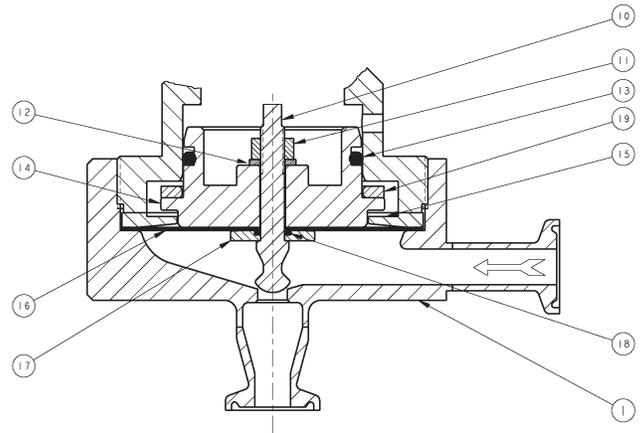

FIGURE 1: Diaphragm & Plug Subassembly
3. Refer to Figures 1 and 2 for the basic regulator, item number reference ().
2. Relax compression on spring (8) by turning the knob (3) CCW until removed from spring chamber (2). Not necessary to rotate nut (5). Remove name plate.
4. Remove spring chamber, (2) ball (6), spring button (7), range spring (8) and spacer (19).
5. Remove the diaphragm sub-assembly. See Figure 1.
6. Secure the O.D. of the pressure plate in soft jawed vise. With a wrench, secure the flats on the plug (10). With another wrench, rotate the hex nut (11) CCW and remove nut and lock washer (12). **NOTE: Plug (10), travel stop (15), diaphragm (16), pusher plate (17)**